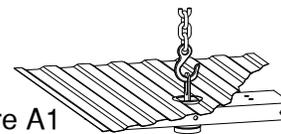

Figure A1
- 6. Prepare a lifting device (optional).** The purpose of the device is to safely hold the hitch in position during part of the installation, see Figure A1 for an example.